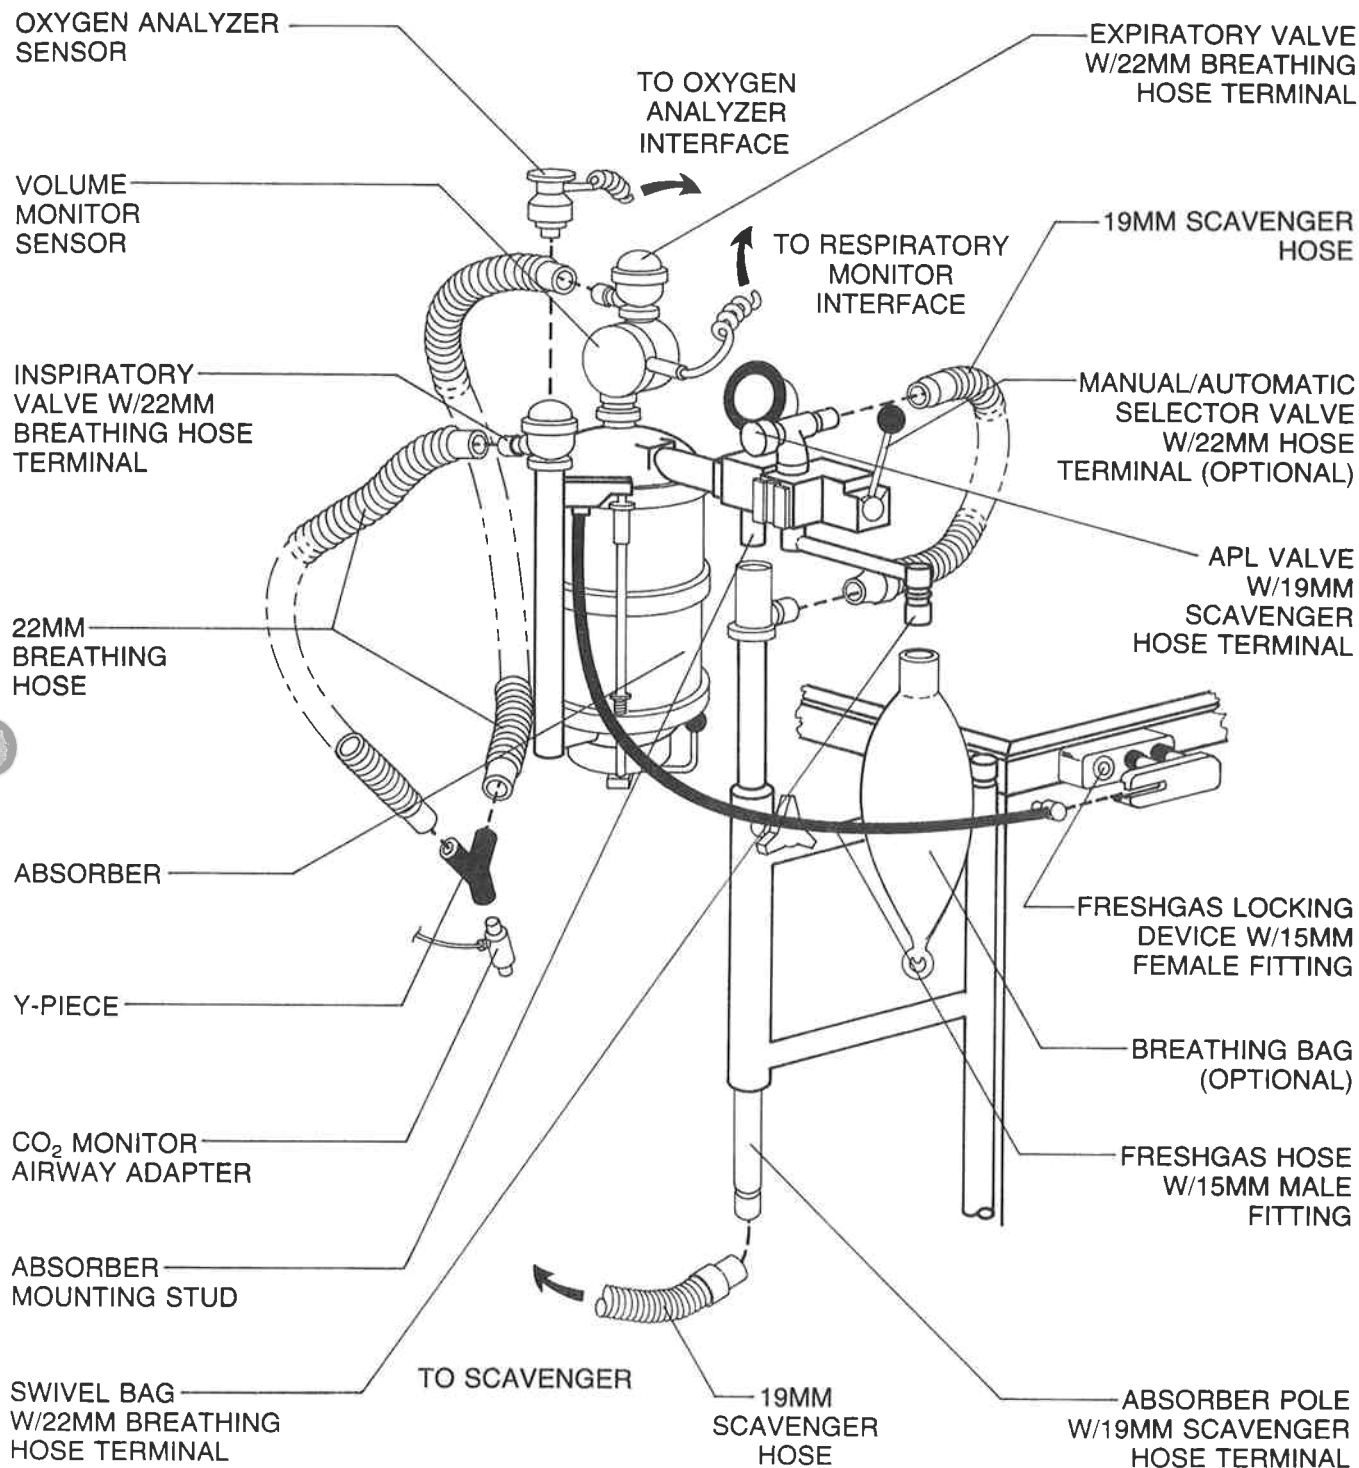
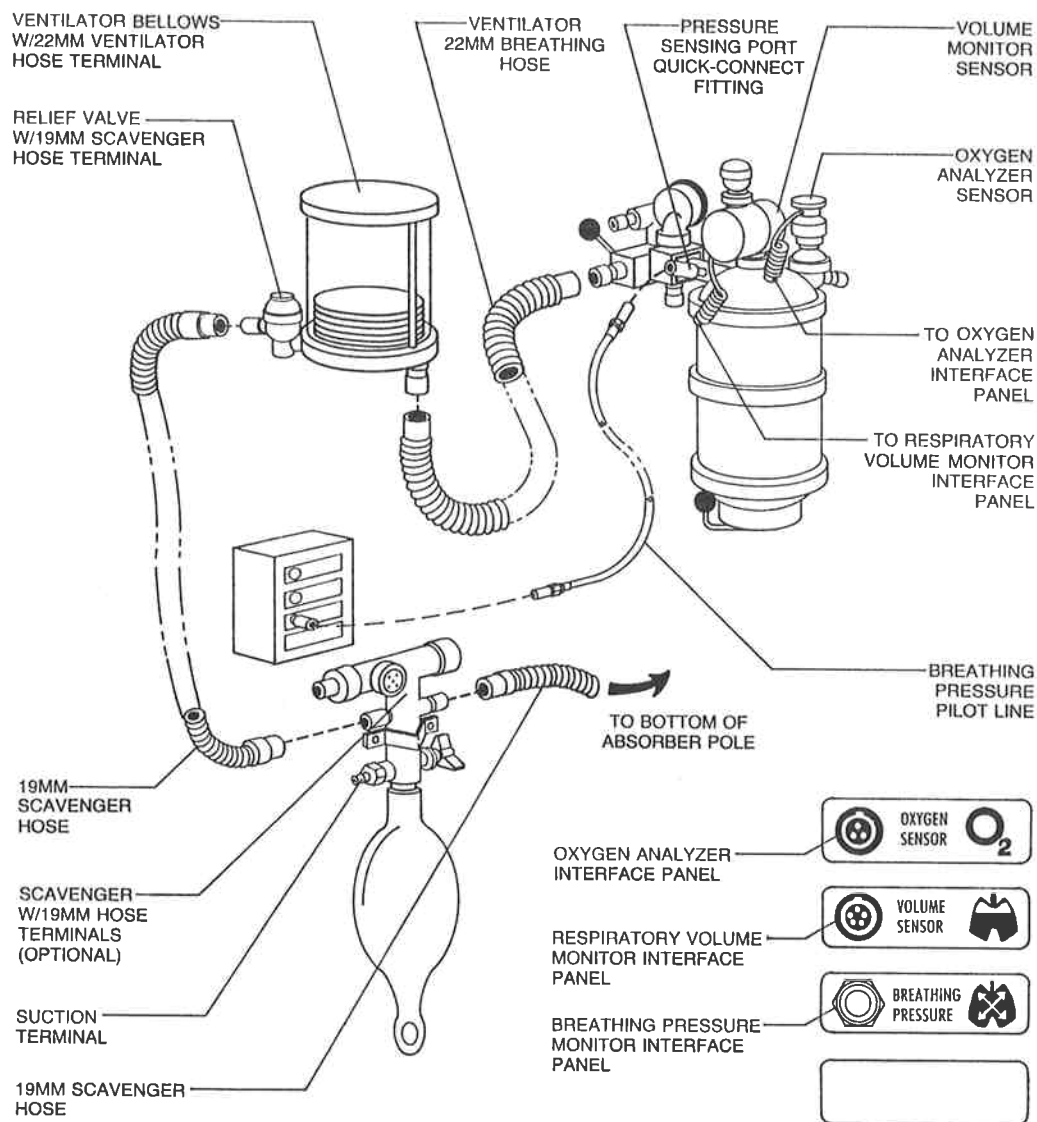

FIGURE 36: ABSORBER INSTALLATION (FRONT VIEW)
FIGURE 37: ABSORBER (REAR VIEW) AND SCAVENGER INSTALLATIONS
Install the absorber system and monitor sensors as described below (Figs. 36 & 37). This installation presumes the use of an appropriate scavenger system with the absorber system. If using a Bain circuit adapter, consult the manual supplied with the adapter.
4. Attach a 22 mm breathing hose (Fig. 37) between the ventilator bellows 22 mm terminal marked "VENTILATOR HOSE" and the 22 mm terminal on the rear of the manual/automatic selector valve, which is also marked "VENTILATOR HOSE."
5. Attach a 22 mm breathing hose (Fig. 36) between the 22 mm hose terminal on the inspiratory valve marked "INSPIRATION" and one side of the Y-piece.
6. Similarly, attach another 22 mm breathing hose (Fig. 36) between the other side of the Y-piece and the 22 mm hose terminal on the expiratory valve marked "EXPIRATION."
7. Attach the breathing bag to the swivel bag mount 22 mm terminal marked "BREATHING BAG" (Fig. 36).
8. Connect the 19 mm scavenger hose between the 19 mm terminal (marked "SCAVENGER HOSE") on the bottom of the absorber pole (Fig. 36) and the 19 mm terminal (marked "SCAVENGER HOSE") on the scavenger (Fig. 37).
9. Attach the breathing pressure pilot line to the connector on the system interface panel marked "BREATHING PRESSURE" (Fig. 37). If the shorter pilot line is used, it reads the pressure at the absorber top dome gas pipe by means of a quick-connect fitting. If the longer pilot line is used, it reads the pressure at or near the patient Y-piece, at either a 15 mm adapter with the appropriate Luer fitting or a Y-piece with the appropriate Luer fitting.
10. Connect the Oxygen Analyzer sensor cord to the connector on the interface panel marked "OXYGEN SENSOR" (Fig. 37). Make sure that the oxygen sensor assembly is properly mounted in the inspiratory valve dome.
11. Connect the 19 mm scavenger hose between the 19 mm terminal (marked "SCAVENGER HOSE") on the rear of the APL valve and the 19 mm terminal (marked "SCAVENGER HOSE") on the rear of the absorber pole (Fig. 37).
12. Install the Respiratory Volume Monitor sensor between the expiratory valve and the absorber. Plug the sensor cord into the connector on the interface panel marked "VOLUME SENSOR" (Fig. 37).
Installation of a suction scavenger system (Fig. 37) on the NARKOMED 2B is as follows:
1. Using the mounting bracket, install the scavenger on the side of the anesthesia unit as shown in Figure 37.
4. Attach the 19 mm scavenger hose between the 19 mm terminal (marked "SCAVENGER HOSE") on the ventilator relief valve (Fig. 37) and the 19 mm terminal (marked "SCAVENGER HOSE") on the left-hand side of the scavenger.
5. Attach the 19 mm scavenger hose between the 19 mm terminal (marked "SCAVENGER HOSE") on the rear of the APL valve (Fig. 36) and the 19 mm terminal (marked "SCAVENGER HOSE") on the rear of the absorber pole.
6. Attach the 19 mm scavenger hose between the 19 mm terminal (marked "SCAVENGER HOSE") on the bottom of the absorber pole (Fig. 36) and the 19 mm terminal (marked "SCAVENGER HOSE") on the right-hand side of the scavenger (Fig. 37).
- *23. Check the hose connections in the breathing system (refer to Figures 36 & 37 in the SETUP & INSTALLATION section of this manual):